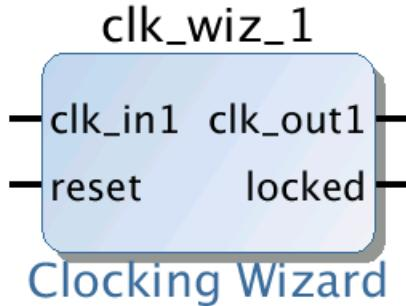

Figure 43: clk_wiz_1 Block
2. Using the IP search, find the Clocking wizard, and add that IP, as shown in Figure 43.